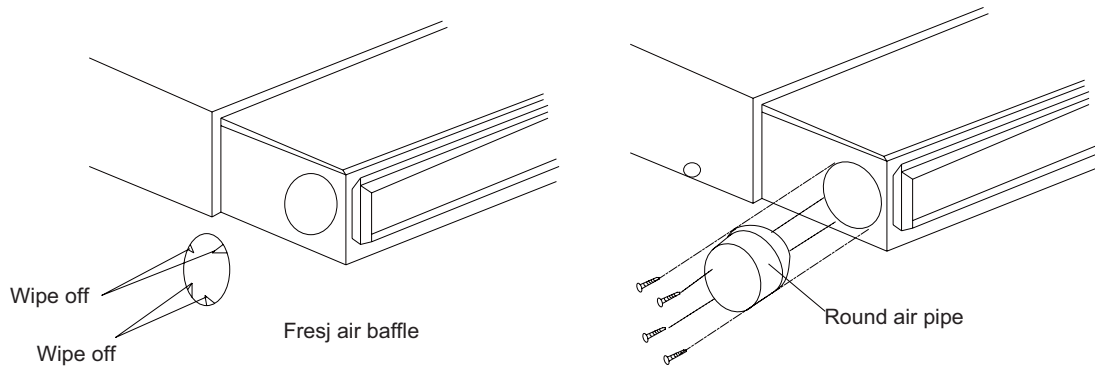

Figure 1-1-13
- ◆ The fresh air baffle, as shown in Figure 1-1-13(a), must be removed for mounting the fresh air duct. If the fresh air duct is not in use, gaps around the baffle shall be sealed by sponge.